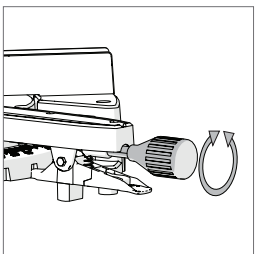

Fig. 30
- Loosen the Mitre Lock Handle (**Fig. 30**) by turning it anti-clockwise.